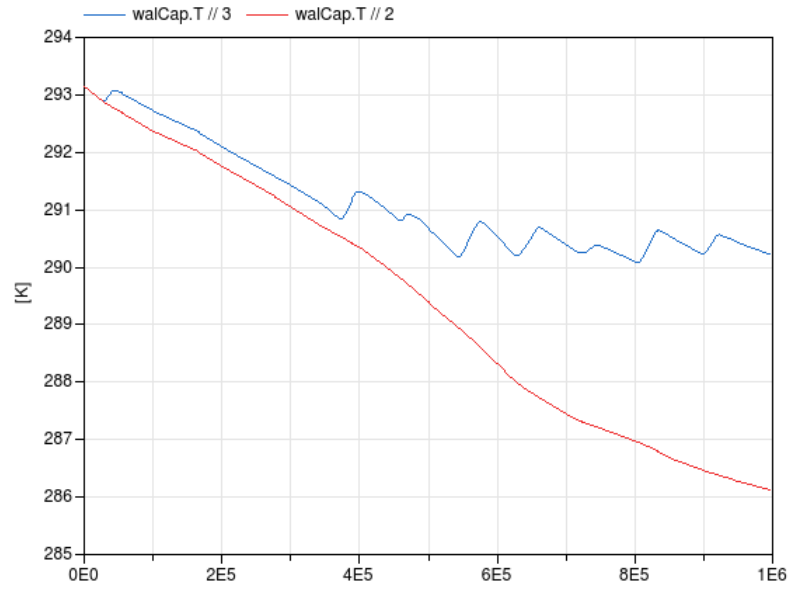

Figure 2: Wall temperature in K as function of time in seconds, with and without window
**Reference result** The result with and without the window model is plotted in Figure 2.